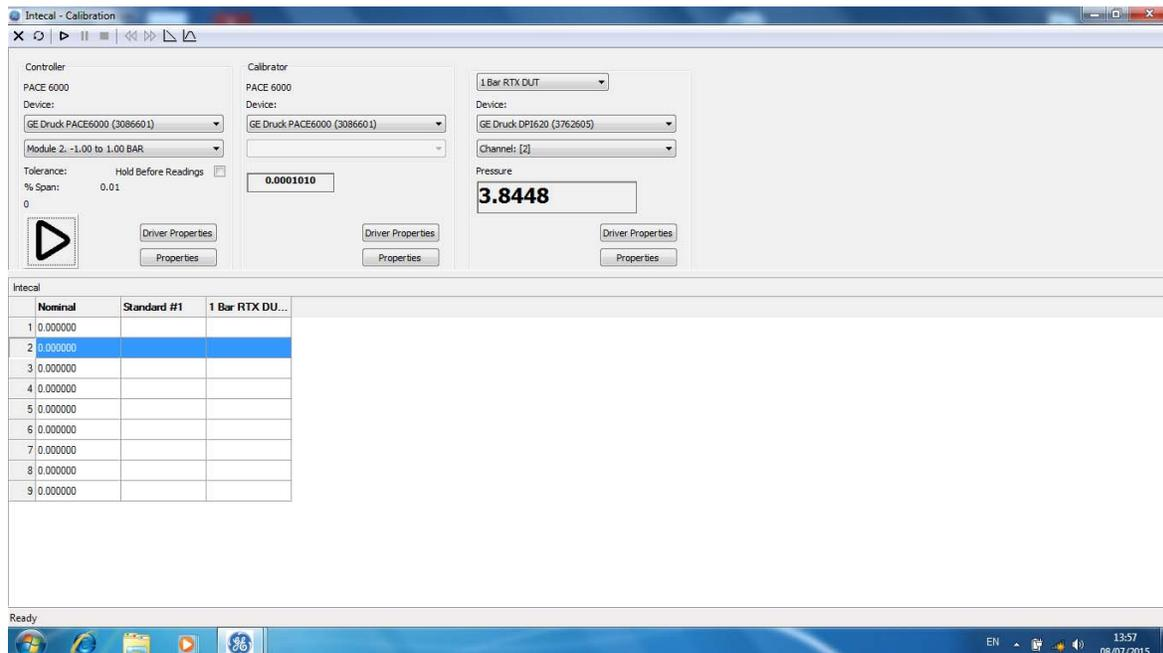

Figure 7-6: Calibration window
3. When the *Calibration System* is correct, click on OK. This opens the “*Calibration*” window (Figure 7-6).
5. When the *Calibration System* is correct, click on OK. This opens the “*Calibration*” window (Figure 7-6).
Figure 7-6 shows the *Calibration* window that opens: